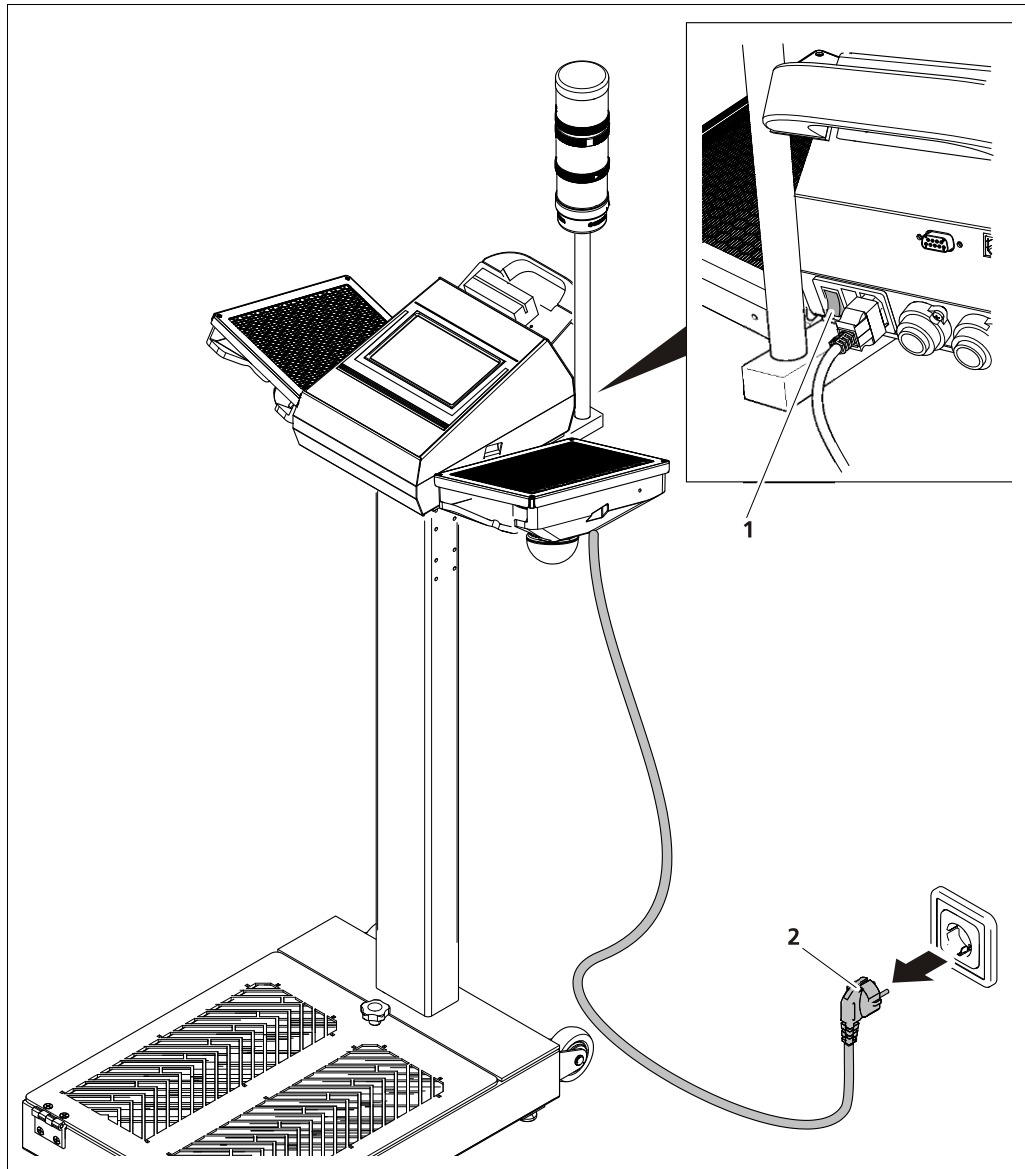

Fig. 10 Disconnecting the device from mains
1. Switch off device at the rear panel (Fig. 10, item 2).
2. Pull the plug (Fig. 10, item 2).